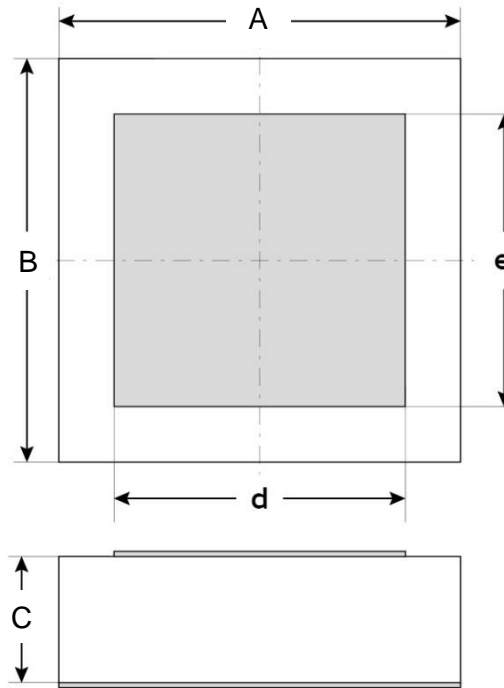

Figure 9 - Package outline 22nF Capacitor
- (1) Other film frame carrier are possible on request
- (2) Au = TiWAu (0.3µm) / Au (3µm)
- (3) Refer to Figure 9
- (4) missing capacitors can reach 0.5%